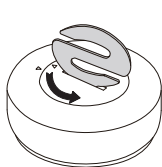

fig.1
---Turn the battery cover counterclockwise with the spanner (fig.1), then remove it.